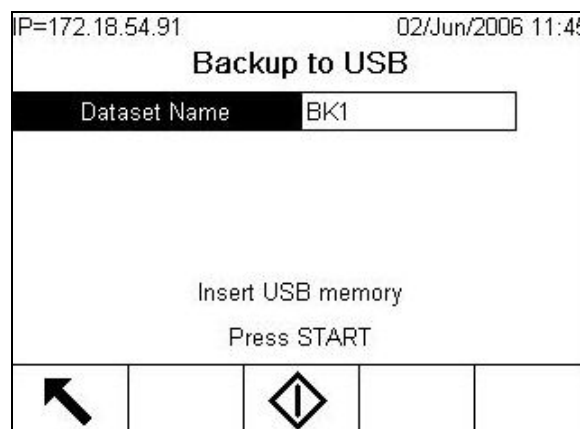

Figure 3-6: Backup to USB
2. Access Setup > Maintenance > Run > Backup to USB. The screen shown in Figure 3-6 will appear.